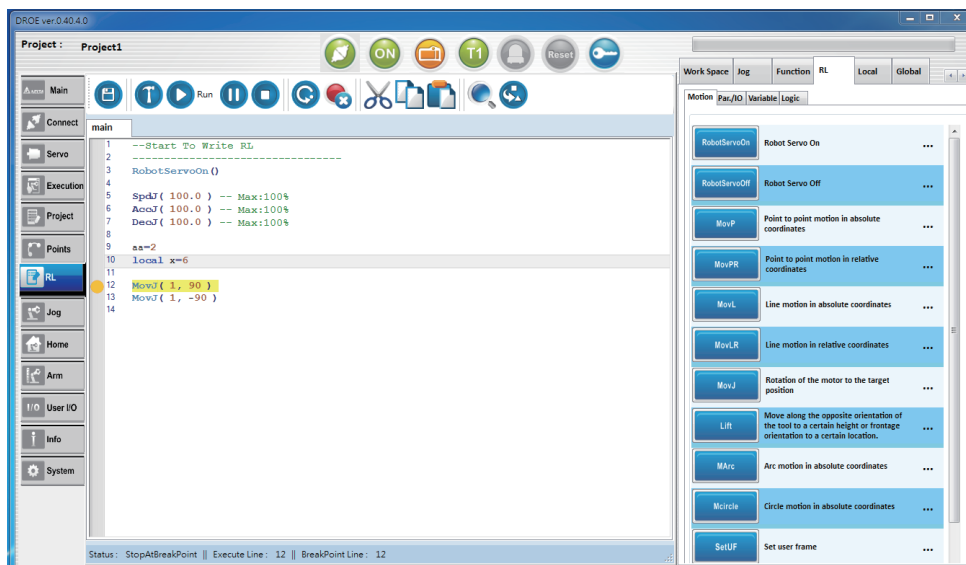

Fig.38 Status of RL execution
## 4. Start (Start) · as shown in Fig.38.
(4) **RL execution status (Status):** It is required to conduct the action with the editing assistance RL page, the “Status” page of the program, of the machine language regarding the help screen. The information of the current execution status of the RL. (Fig.38).